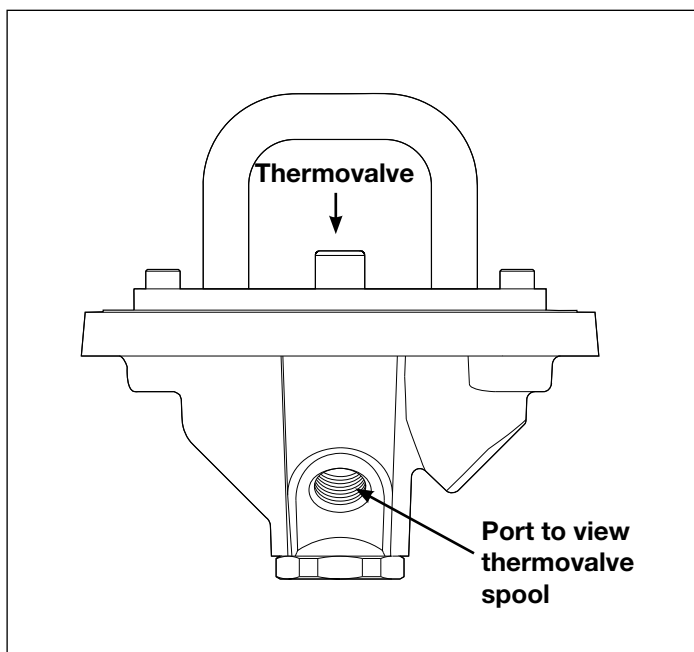

Figure 9
4. While looking into the fluid port of the bottom plate (see Figure 9) flow cold water over the thermovalve for 30 seconds, then run hot water over the thermovalve and determine if the thermovalve spool is opening and closing.